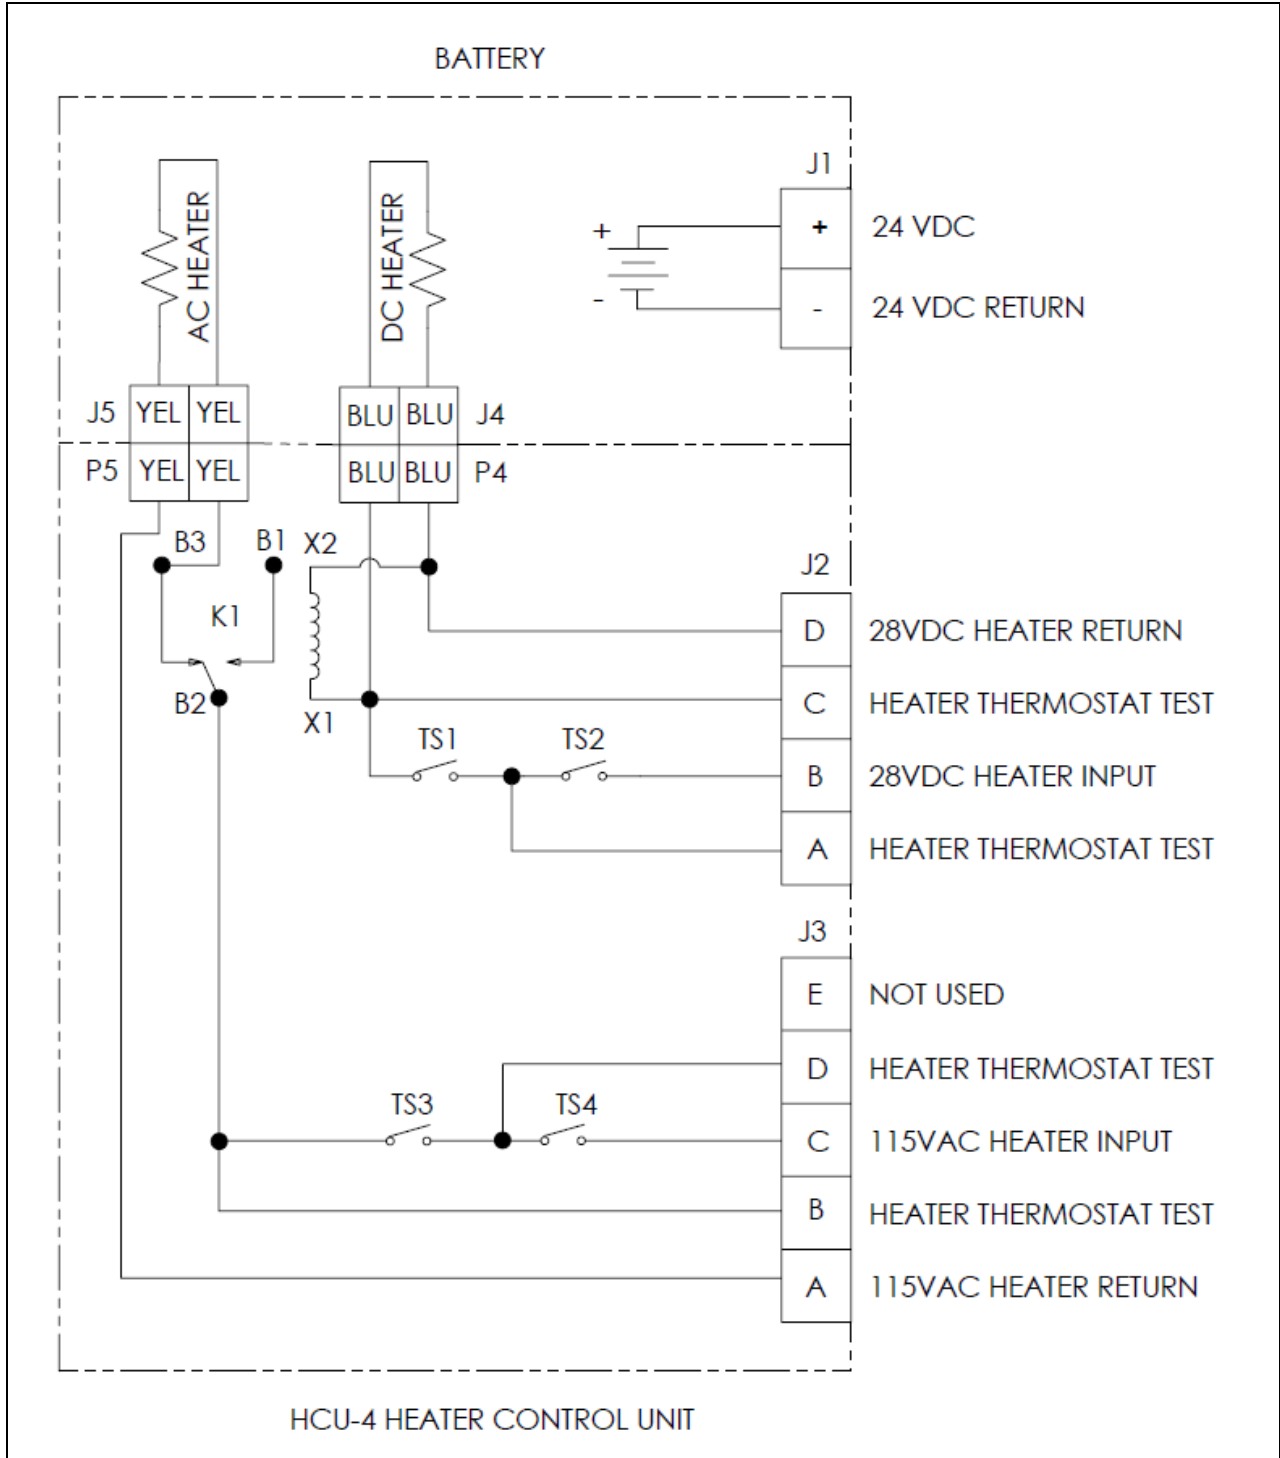

Figure 1. Schematic Diagram for HCU-4
- b. Refer to Figure 1 for electrical schematic of HCU and Table 1 for a list of test equipment.